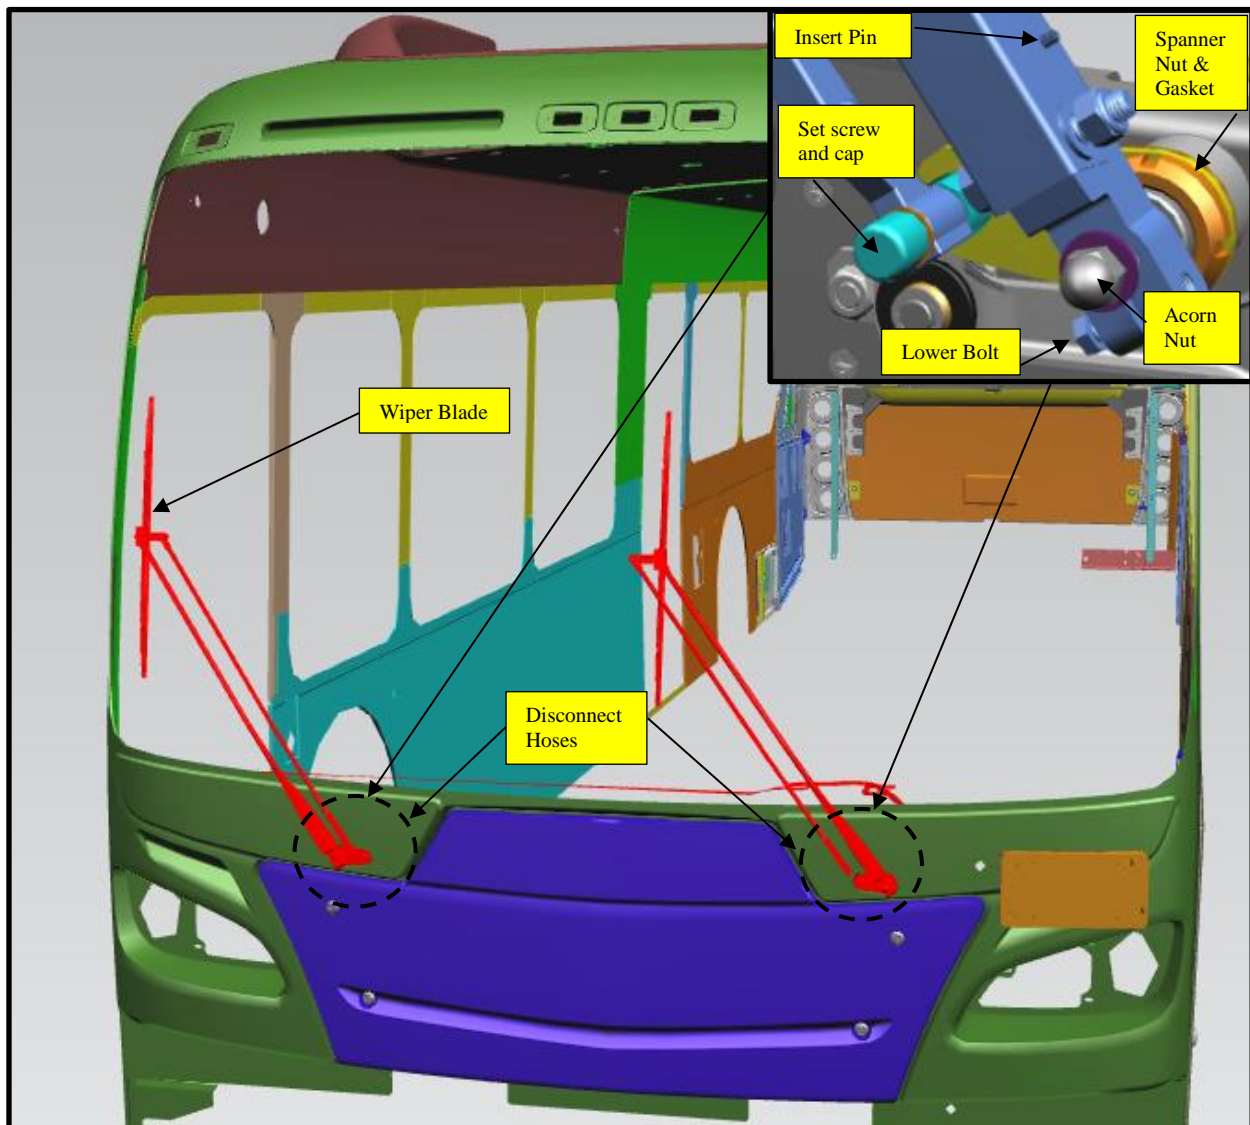

Figure 1: Wiper motor location reference.
3. Gently pull the wiper arm body away from the windshield and place small pin or punch in the hole located in the wiper arm to retain the tension on the arm. See Figure 1.
4. Gain access to the windshield washer hose and disconnect. See Figure 1.
5. Remove and discard the bolt to the lower wiper arm assembly clamp attached to the wiper motor splined shaft. See Figure 1.
6. Remove the Acorn nut and washer from the wiper arm shaft assembly and discard. See Figure 1.
7. Remove the set screw and cap from the low idle arm and discard. Do not discard the flat washers and spring washers. See Figure 1.
9. Remove the spanner nut, bracket assembly, and gasket. Set aside for reinstallation. See Figure 1.